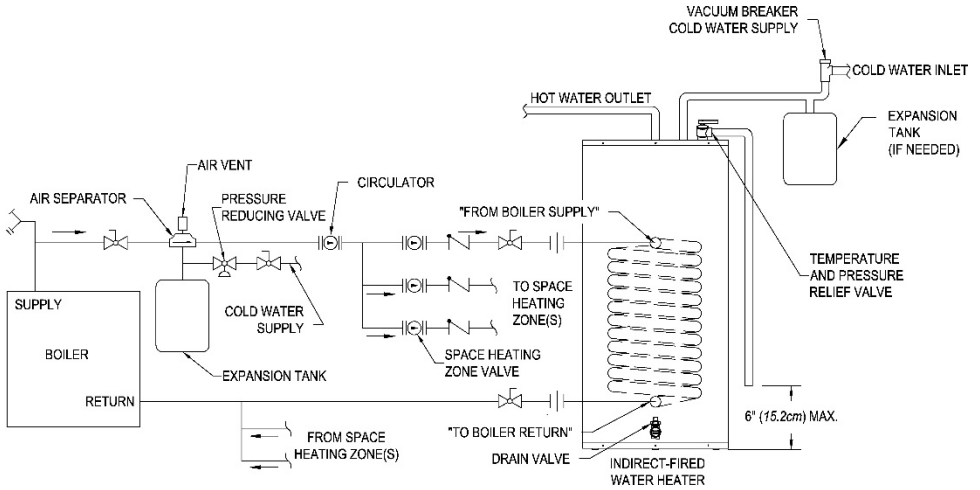

Figure 4 - Water Boiler Piping with Circulators
2. For a space heating system that utilizes CIRCULATORS, refer to Figure 4. The indirect-fired water heater connection labeled “FROM BOILER SUPPLY” should be piped to the boiler supply piping. Mount the circulator making sure the flow arrow points toward the water heater. The use of shut-off valves and unions are recommended for future service convenience. The use of an air separator and vent is recommended to eliminate air in the system. Pipe and fittings between the boiler and indirect-fired water heater must be ¾” diameter or larger.